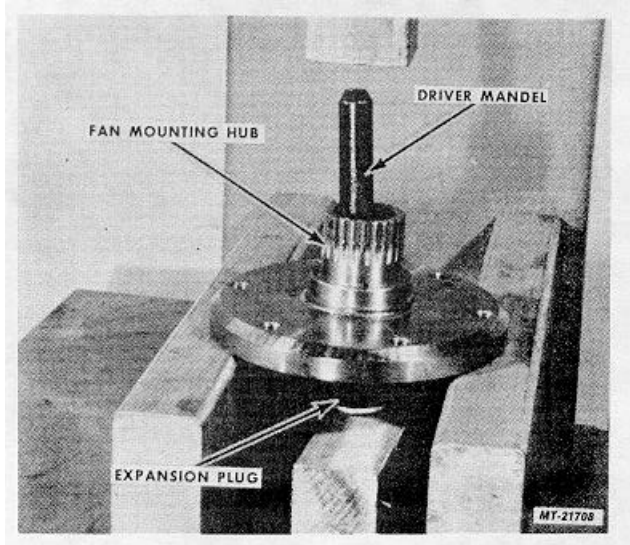

Fig. 16
13. Press out Expansion Plug, Fig. 16. The shoulder on Driver Mandel SE-2782-9 will stop against Thrust Washer after the Expansion Plug has fallen free.